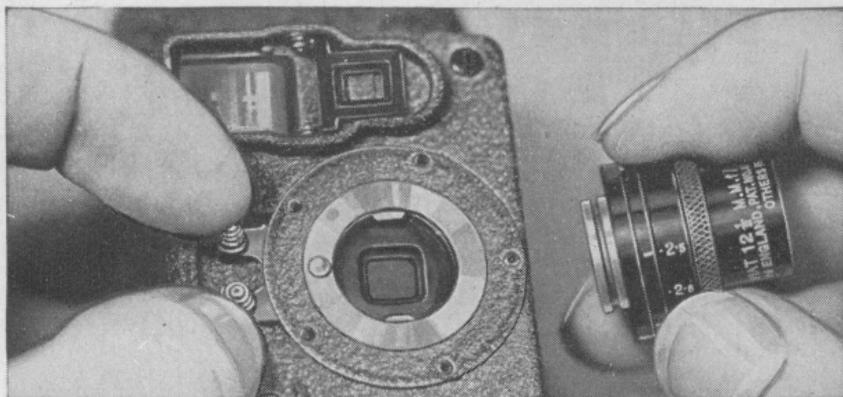

Figure 3 — Removing the lens
K. LENS HOLDING LOCK. Holding the lens, press the two pins together and lift the lens off of the camera, as in Figure 3. Then, compressing and releasing the two pins, you can see, moving in and out of the lens seat, the two spring-retained latch members which lock the lens in place. This mechanism makes for easy lens interchangeability. To replace the lens, first press the two pins together, then insert the lens in its seat, seeing that the notch in the lens mount base fits over the short pin beside the lens seat.